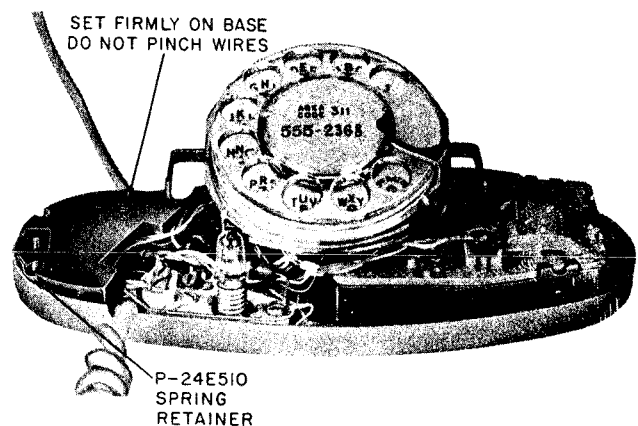

Fig. 12 — Location of P-24E510 Spring Retainer and P-15E719 Weight
- (4) Install P-15E719 weight and P-24E510 spring retainer as shown in Fig. 12.
- (5) Replace telephone set housing.